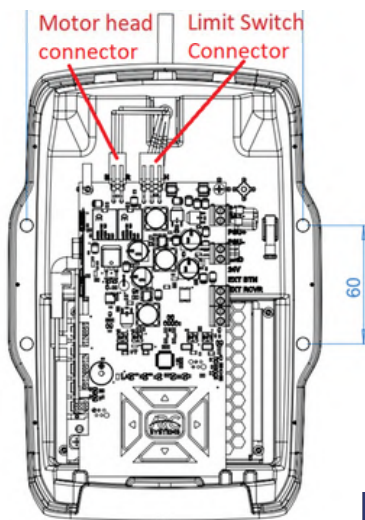

Figure 6
- ☐ Connect limit switch connector (3-way connector) (See Fig 6)